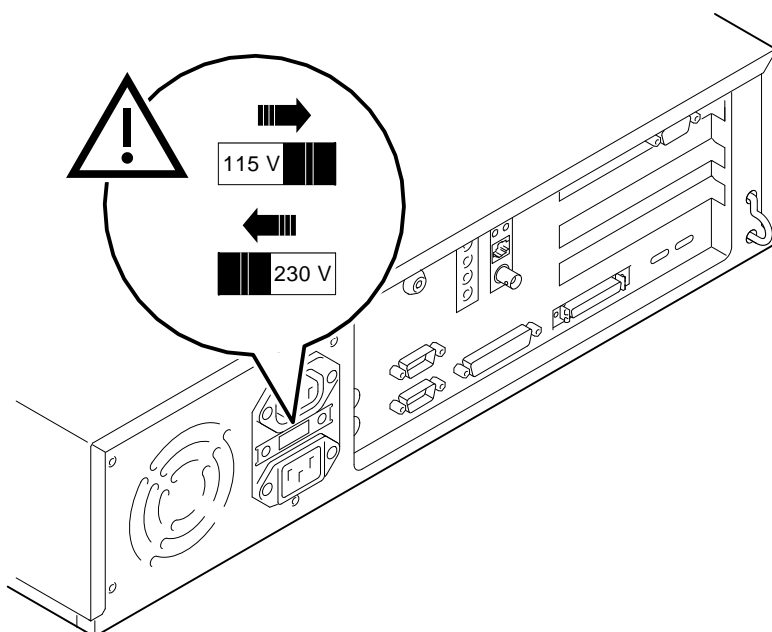

Figure 1-4. Voltage Selector Switch
1. Confirm that the voltage selector switch matches your local voltage (either 115 Volts or 230 Volts), as Figure 1-4 shows.